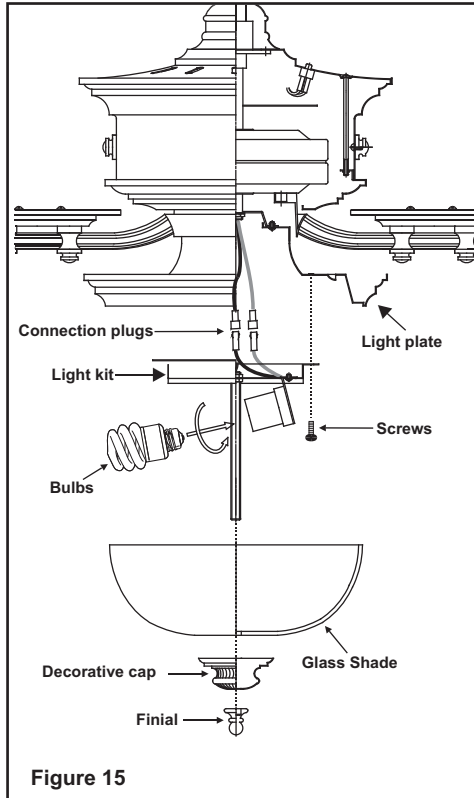

Figure 15
Step 2. Raise and hold the light kit close to the light plate and proceed to do the wire connections. Connect the white wire connectors from the light kit and fan, follow the same procedure with the black wire connectors. (Fig. 15)
Step 3. Tuck connections neatly into light plate, Place the light kit key holes over the 3 screws previously loosened from the light plate, turn light kit until it locks in place at the narrow section of the key holes. Secure by tightening the 3 screws previously loosened. (Fig. 15).
Step 4. Install 2 x 13 Watt compact fluorescent bulbs (included). (Fig. 15)
Step 5. Place glass shade over the light kit and secure it with the decorative cap and finial provided. **DO NOT OVER TIGHTEN.** (Fig. 15)